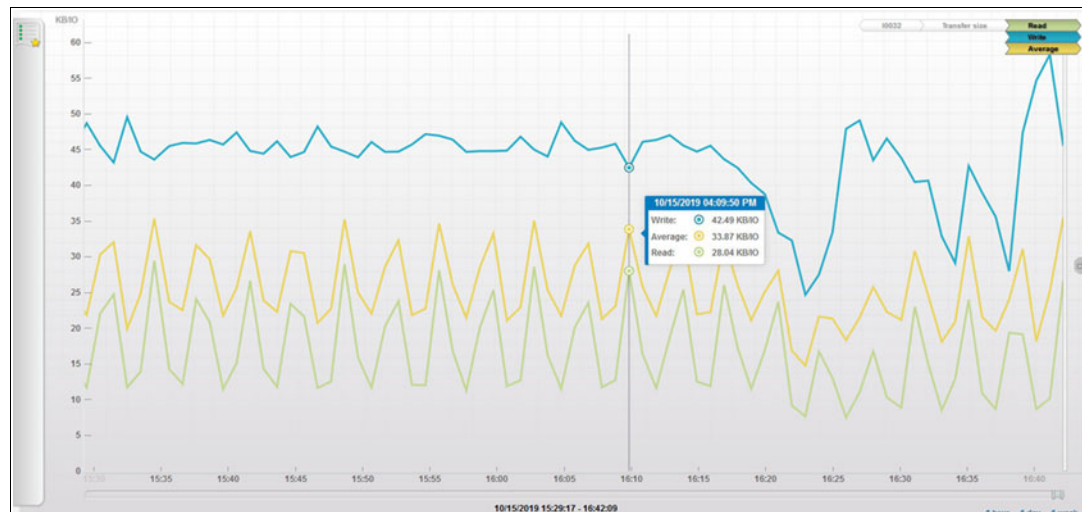

Figure 9-121 Fibre Channel Port performance graph
4. Draw the graph. Figure 9-121 shows the completed graph.